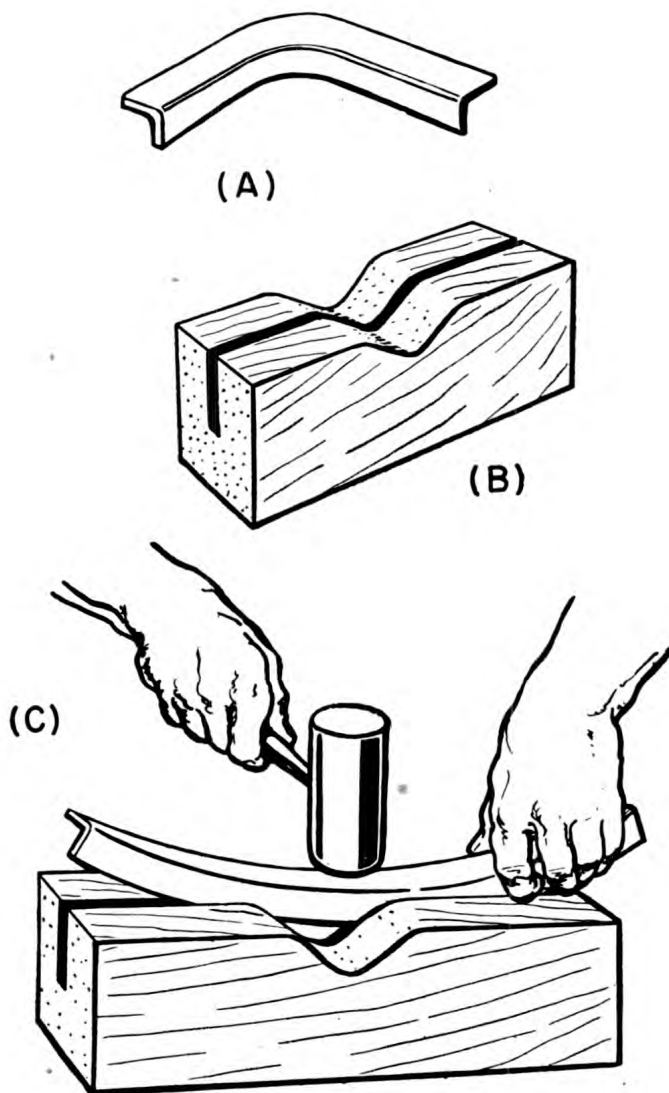
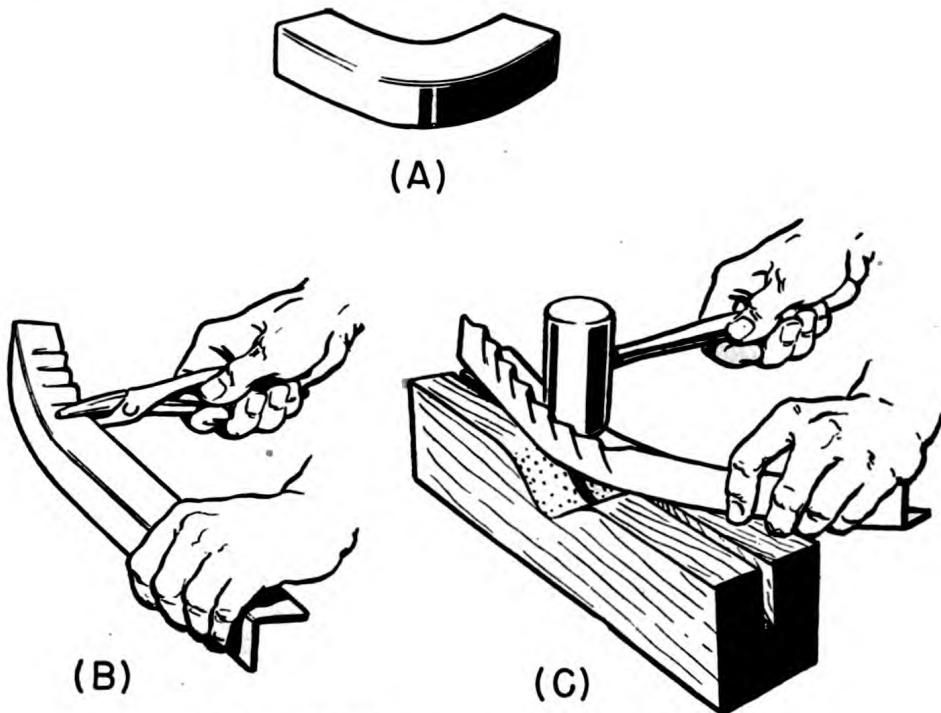

Figure 44.—Stretching an angle strip into a curve.
Figure 45.—Shrinking an angle strip into a curve.
An angle strip can be stretched into a curve like that of (A) in figure 44 by stretching one of its bent flanges. Do this kind of stretching on a V-block, shown in (B), which has a slot to accommodate the angle and a V-shaped opening over which to hammer the metal.
To shrink a piece of metal you have to CRIMP the edge, then hammer out the crimp. Suppose you want to bend an angle strip in a direction opposite to that shown in (A) of figure 44. It would not look like drawing (A) of figure 45.